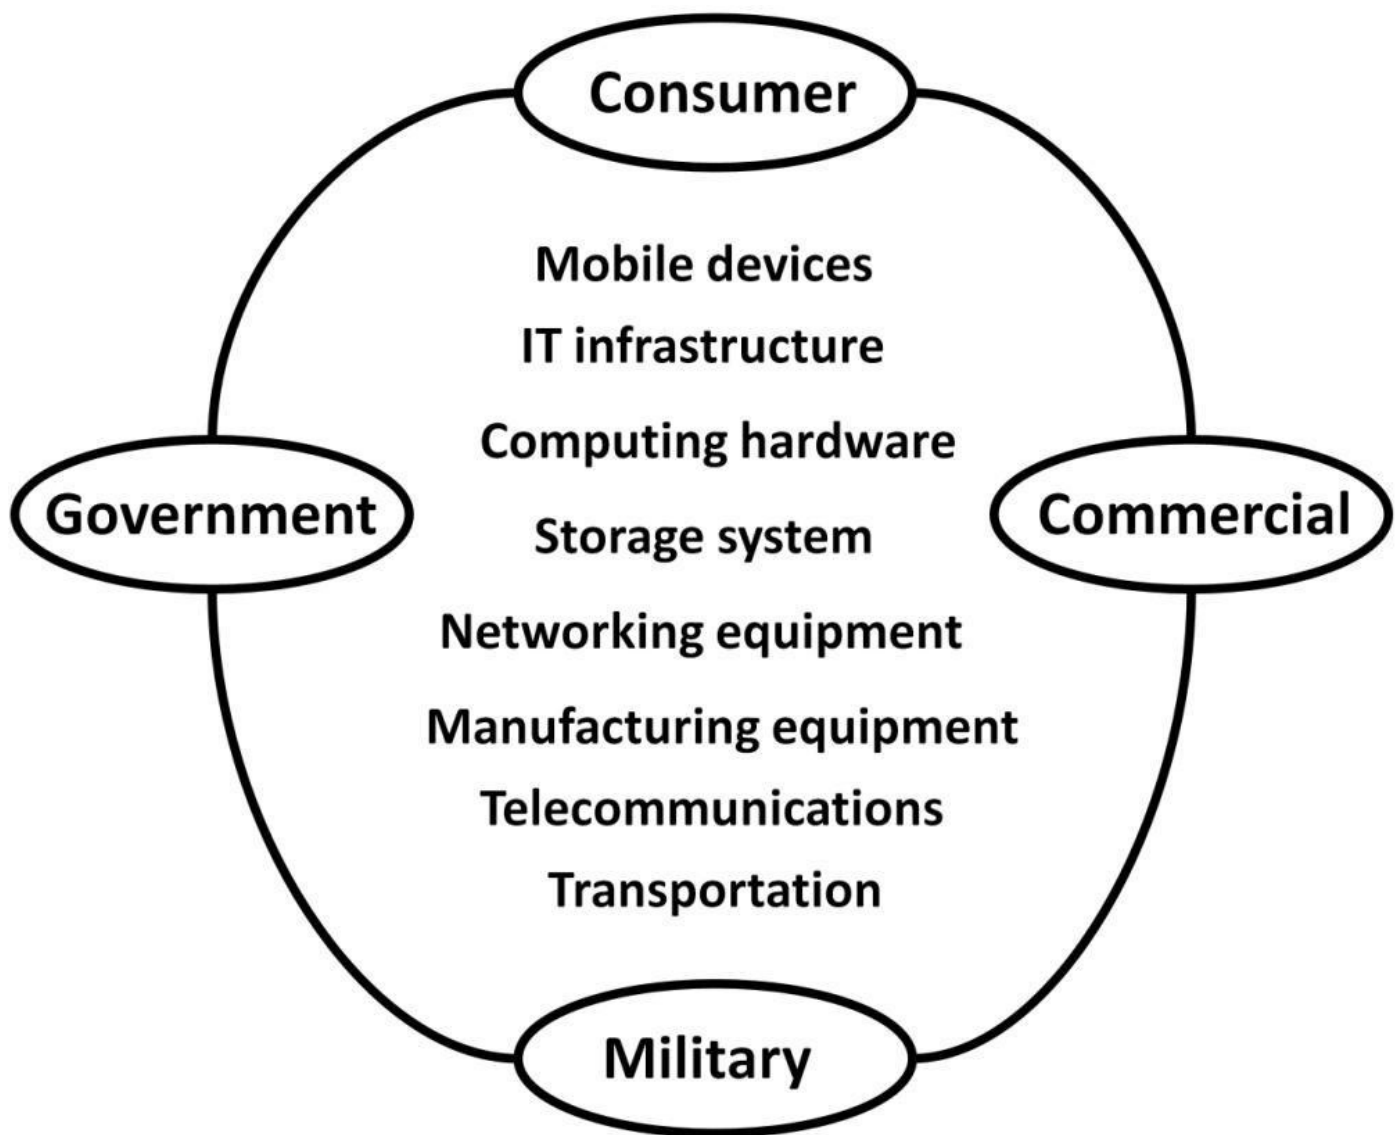

Figure 4.3: Mixed-signal electronics industries and markets
Before we dive into the world of analog electronics, let's take a look at how big the analog market really is. The analog IC market size is about US \$17 billion according to 2011 market data from research firm Databeans. Plenty of electronic products deal with analog signals. When you speak into your smartphones, your voice is an analog signal that is processed and digitized before being transmitted through the air. The top five analog IC vendors account for almost 40% of total market share. They are Texas Instruments, STMicroelectronics, Infineon Technologies, Analog Devices and Qualcomm. Low costs and technological advancement in electronics technology made electronics an ideal choice for processing analog signals. Electronics take analog signals as input; then the signals are filtered and amplified before passing to the next processing phase. Such a process is called signal conditioning. Major analog electronics products include standard amplifiers, comparators, analog-to-digital converters (ADCs), digital-to-analog converters (DACs), radio frequency (RF) chips, power management systems, and more. Many analog electronics are now combined with digital electronics. The industry terminology of such framework is mixed-signal design. These systems contain a mix of analog and digital design combined into one semiconductor chip. Some refer these chips as "system-on-a-chip" (SOC). Products containing mixed-signal electronics are plentiful. Figure 4.3 shows several industries that use mixed-signal electronics and the market and product categories within. In each market, numerous electronic functions and applications are employed: audio, video, automotive, LED lighting, Ethernet network, wireless network, telecommunication applications, medical equipment, motor control applications, renewable energy, aerospace, military, defense applications, touch screen, smartphone applications, industrial testing, manufacturing equipments, and the list goes on.